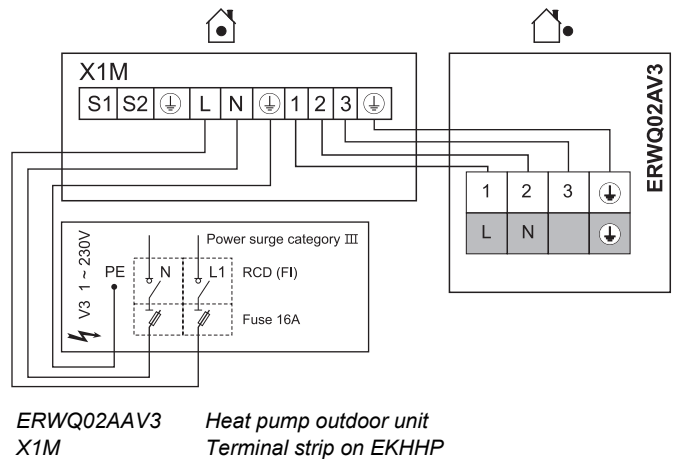

Fig. 3-11 DAIKIN EKHHP mains connection
- 6 Connect the DAIKIN EKHHP to the heat pump outdoor unit (see fig. 3-11).
- 8 Connect the power supply cable for the booster heater to DAIKIN EKHHP (see fig. 3-11).
- 9 Connect the cable for the power supply of the booster heater to the distribution box of the house installation (see fig. 3-11).